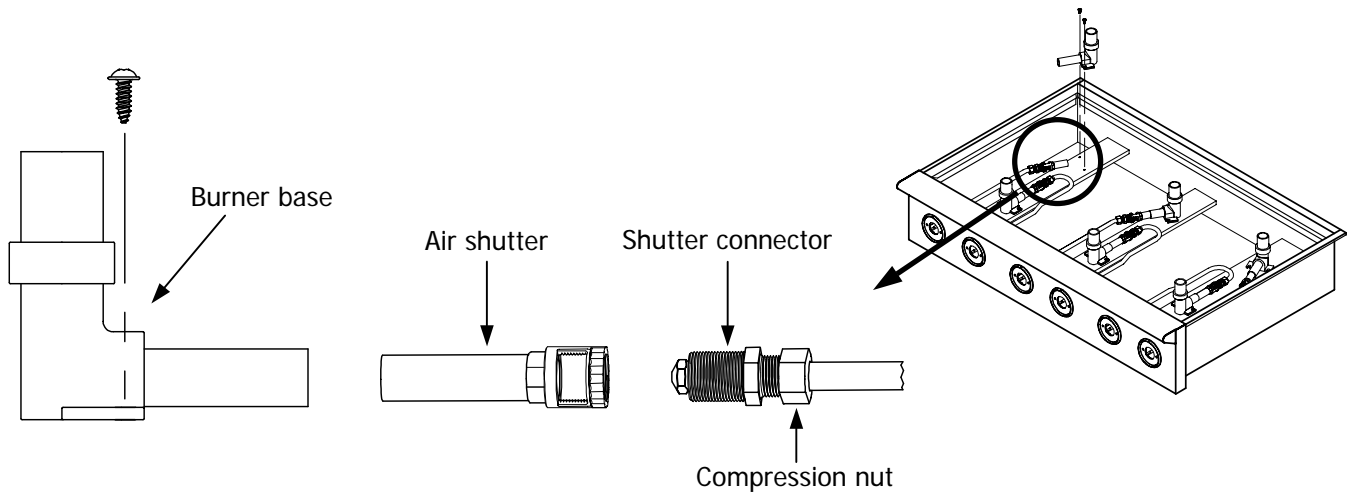

Figure 9-1 Air Shutter Assembly
- 9-2** Thread the air shutter onto the left rear shutter connector about 6 turns (see Figure 9-1).